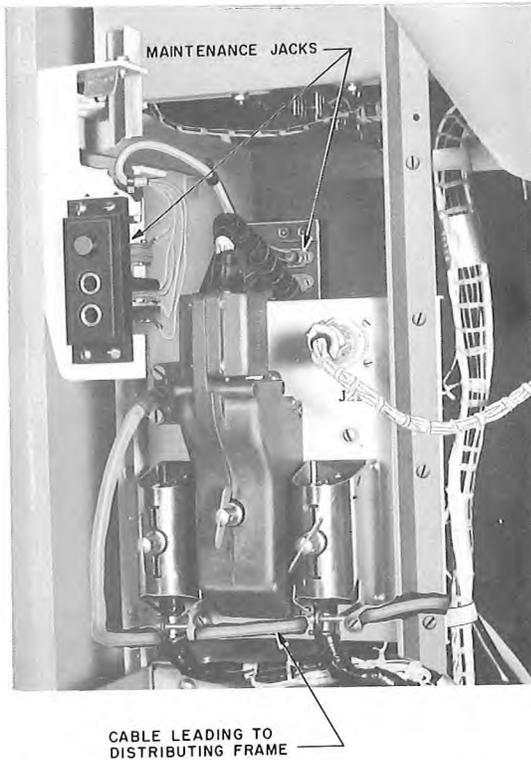

Fig. 21 – Arrangement of Cables in Long-Range Input Monitor, Front View
7.00 CONSOLE, LONG-RANGE INPUT MONITOR (Fig. 21, 22)